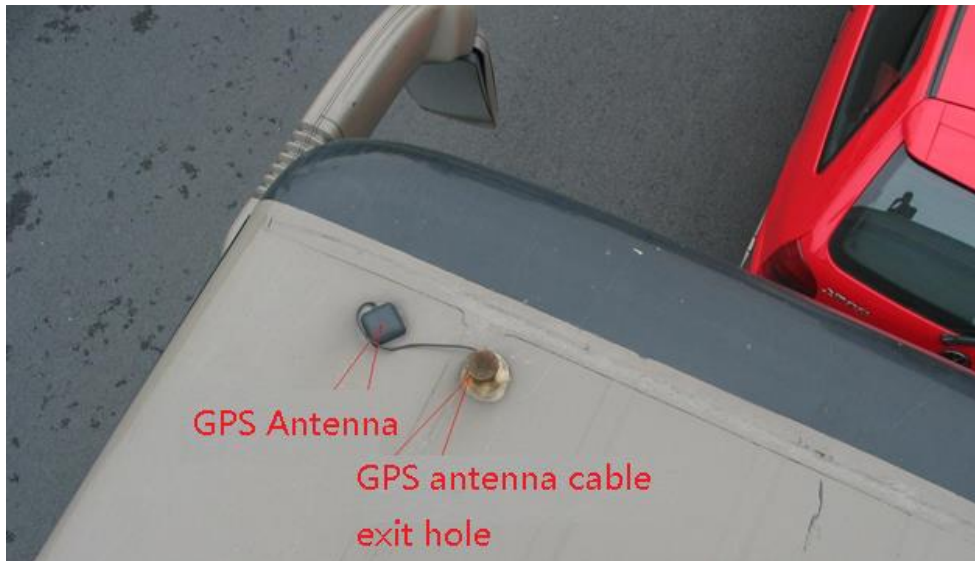

Figure 1-11
Step 1 Install the GPS antenna at the left front of the top. See Figure 1-11.